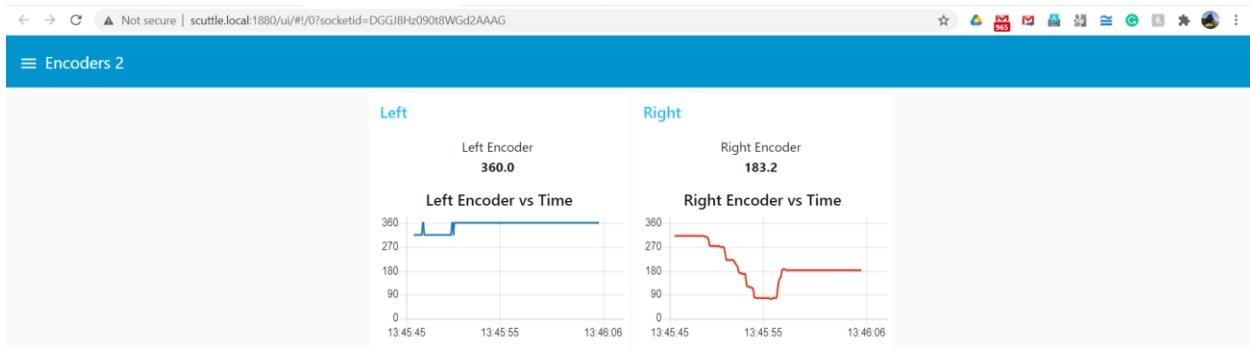

Figure 29
- d. Now click the “Deploy” button in the upper right of NodeRed and then click the open dashboard button. It should open a new tab in your browser with two values which are each displayed on a respective chart with respect to time like Figure 29 below.